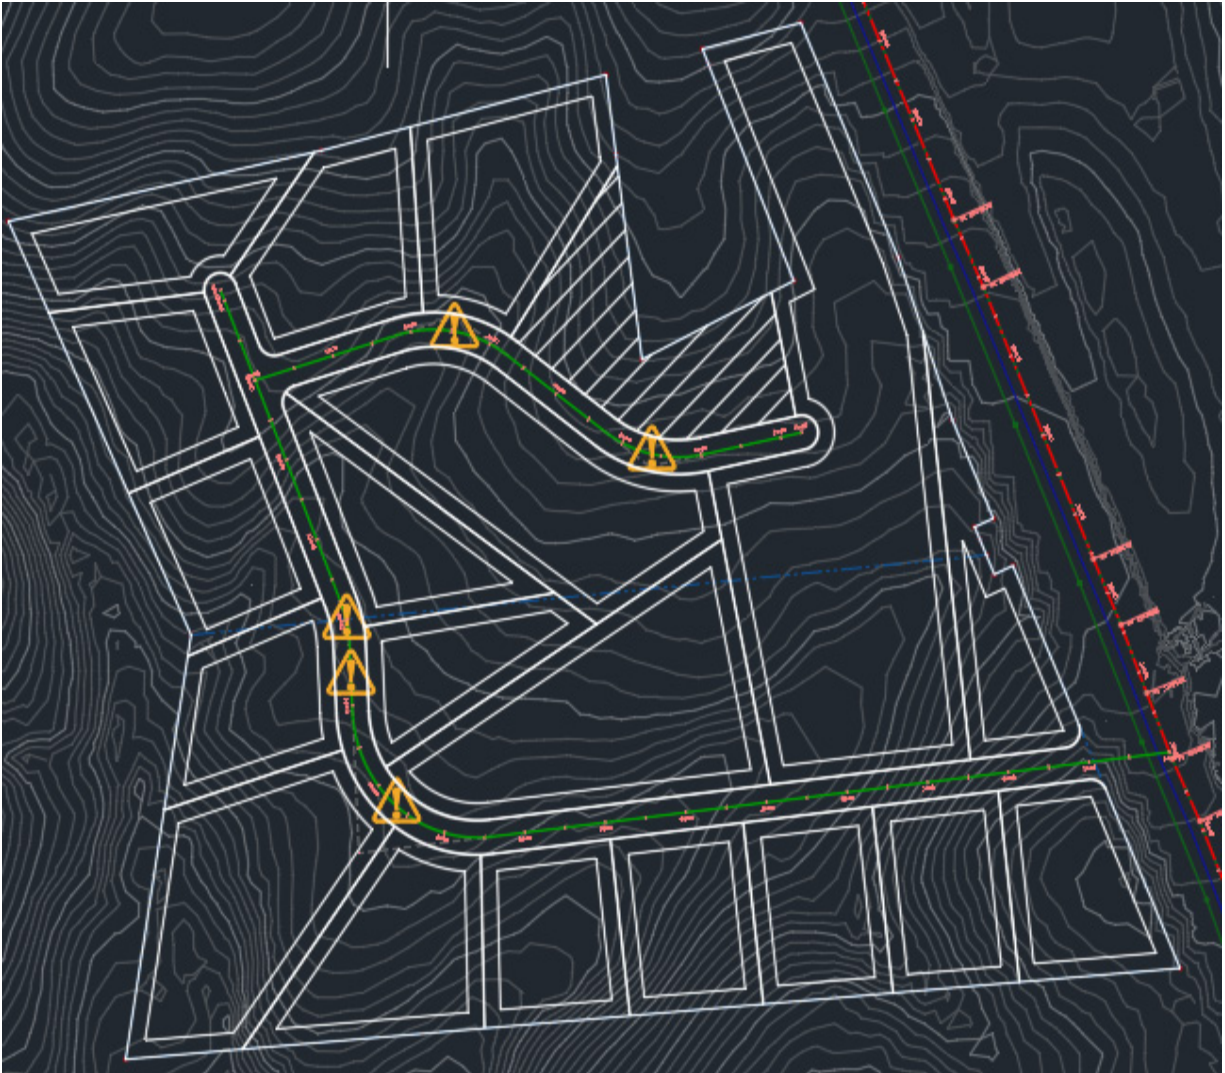

Figure 9.21 – Grading Model.dwg file after polylines representing parcels are copied and pasted
12. Offset boundary lines internal to each lot by 20 feet, except for our Open Space lot (shown hatched in *Figure 9.21*).
13. The final appearance should look similar to that shown in *Figure 9.21*: